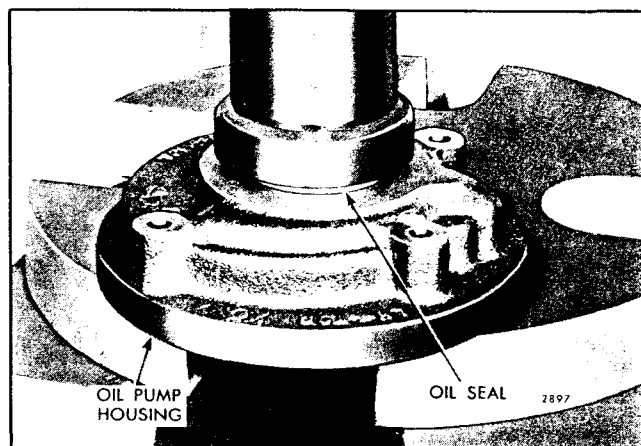

Fig. 83 - Installing Oil Seal in Oil Pump Housing
- d. Place the oil seal installer on top of the oil seal and under the ram of the press as shown in Fig. 83; then, press the oil seal straight into the housing until the flange of the installer contacts the housing.